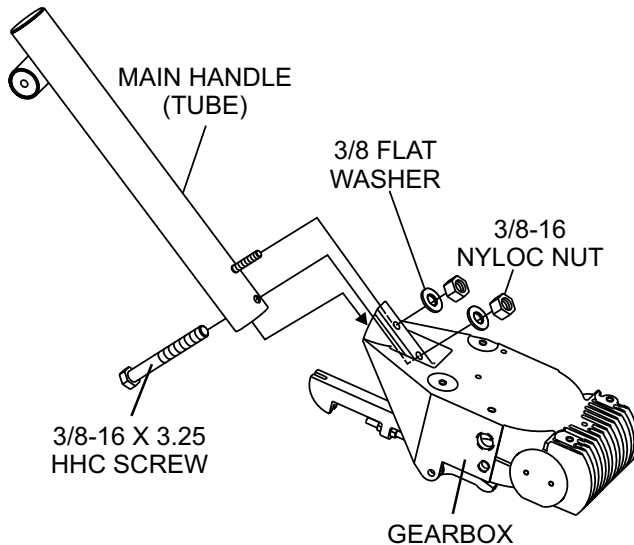

Figure 4. Handle Tube Installation
1. Attach the main handle (tube) to the gearbox as shown in (Figure 4). The mounting hardware should be contained in the shipping container.